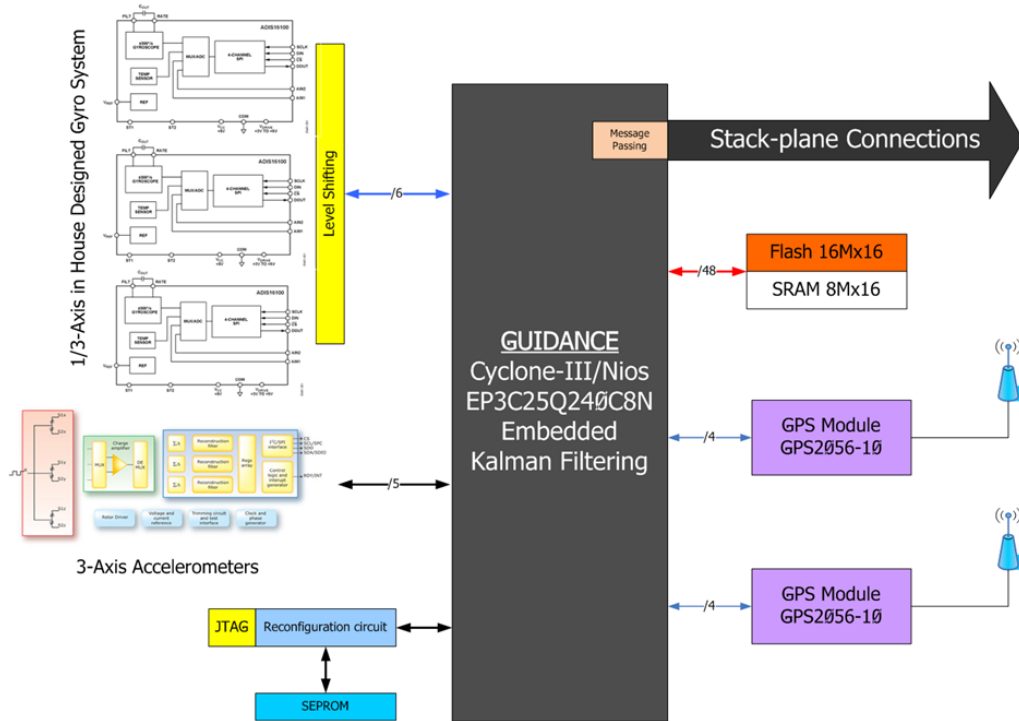

Figure 4 Guidance Processor
The GP in the SFARV is a moderately complex system module containing a basic Inertial Measurement Unit (IMU) and two GPS receivers, see Figure 4. The antennas for the GPS units are mounted on the top deck left and right sides. Bonus of two GPS units is the ability to confirm left/right tilt. The Inertial Measurement Unit is illustrated in a disassembled visual aspect. The basic IMU will contain a 3-axis accelerometer and a Yaw (Z-axis) rate gyro. The full IMU contain rate gyros on the roll (X) and pitch (Y) axis.